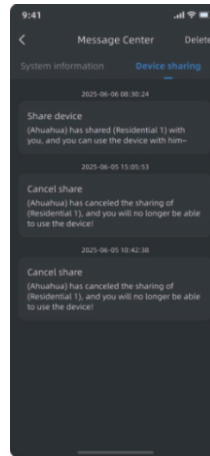

Figure 4
4)Figure 4: After entering the correct account to share, the other party can receive sharing messages in "**My - Message Center - Device Sharing**".